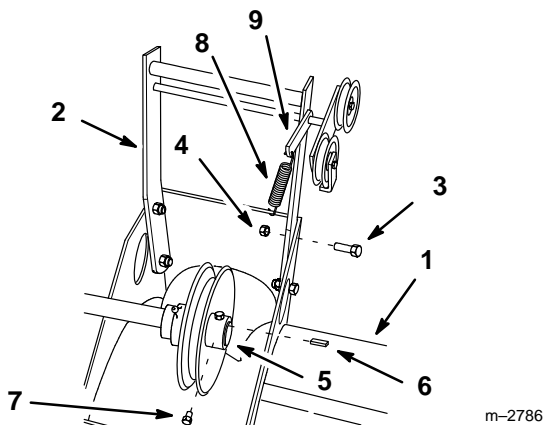

Figure 1
1. Tip housing onto front and insert frame into snowthrower with angle bend up (Fig. 1). Fasten frame with (4) 3/8 x 1" bolts (heads to the outside) and (4) 3/8" locknuts.
2. Install pulley so hub is flush with end of drive shaft (Fig. 1) and secure with square key and (2) square head set screws.
3. Install tension spring between frame and idler arm (Fig. 1).